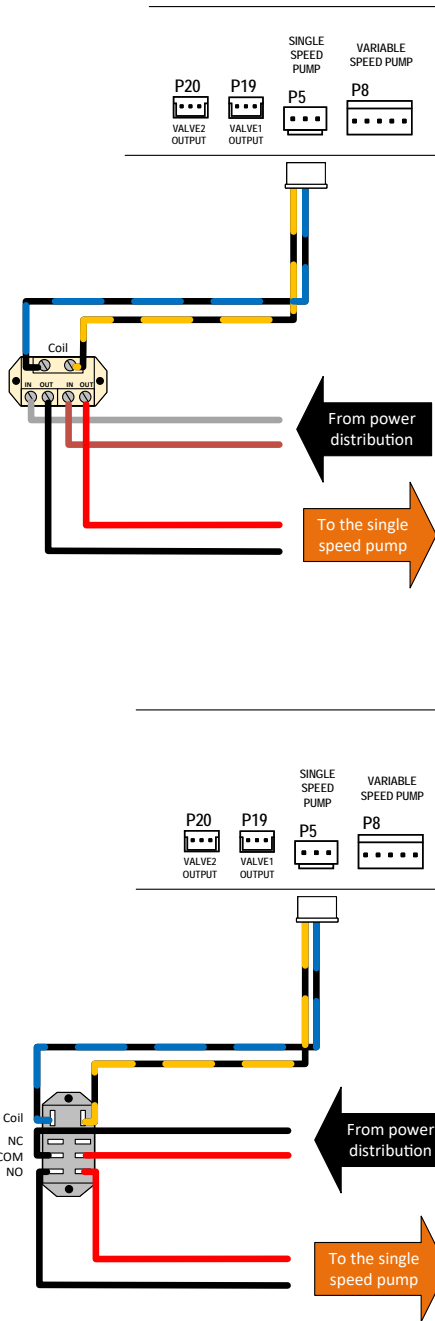

Figure 135. 24VAC Relay Wiring
- Use the harness adapter supplied in the accessory bag labeled as “single-speed pump” to connect the field-supplied relay to the terminal of the control board marked as “PUMP” [P5]. Connect the other end of the harness to the coil terminals of the relay, as shown in Figure 135.
- Connect the wires coming from the pump and the power distribution box to the relay contact terminals, as shown in Figure 135.